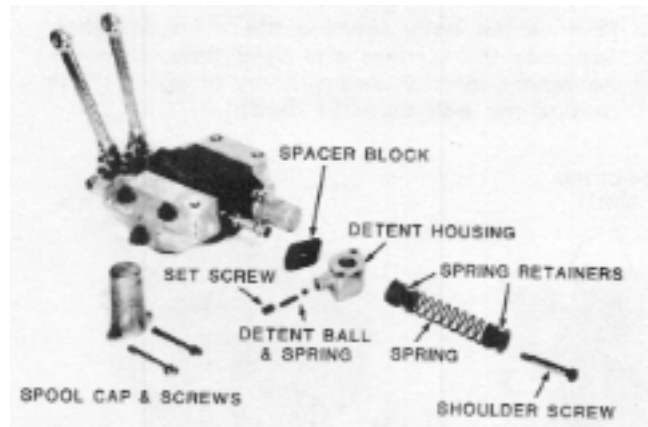

FIG. 5B. Spool Cap & Valve Disassembly — Spool Valve with Detented Float Position
- e. The float detent, on valves so equipped (Fig. 5B), is adjusted using the set screw on the bottom of the valve. Properly adjusted, the spool valve will lock into the float position when engaged, yet release easily when light pressure is applied to the handle.